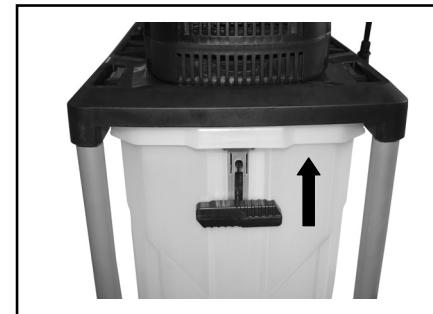

Fig. 10
8. Lock the collection box in position by pushing safety switch upwards (Fig. 10). Due to gap between base frame and collection box, safety switch may not be easy to push upwards, you can gently wag the collection box from side to side and find the right position.